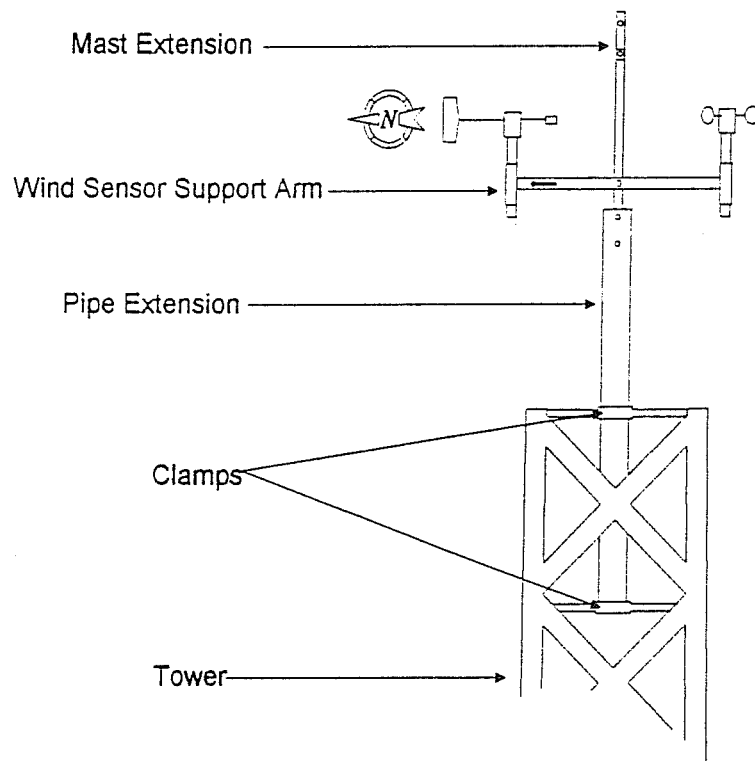

Figure 5-5
4. Most towers have a pair of collars or U-bolt clamps attached near the top. These are used to clamp the pipe extension into place. See Figure 5-5. If there are no collars for center mounting, the pipe extension can be attached to one of the tower legs with large stainless steel hose clamps.